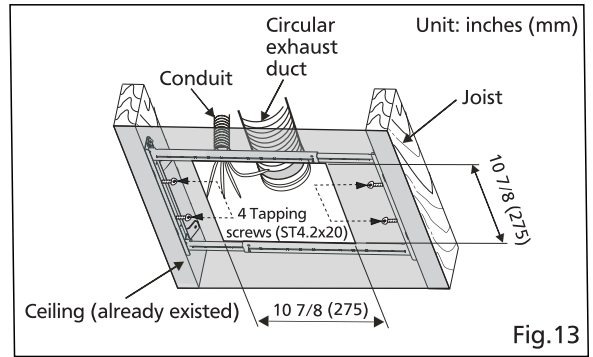

Fig.13
1. Remove the existing fan and cut ceiling opening. Install the Flex-Z Fast™ bracket to joists by using the 4 pre-installed tapping screws (ST4.2x20). Leave existing ductwork and wiring in place. (Fig.13)